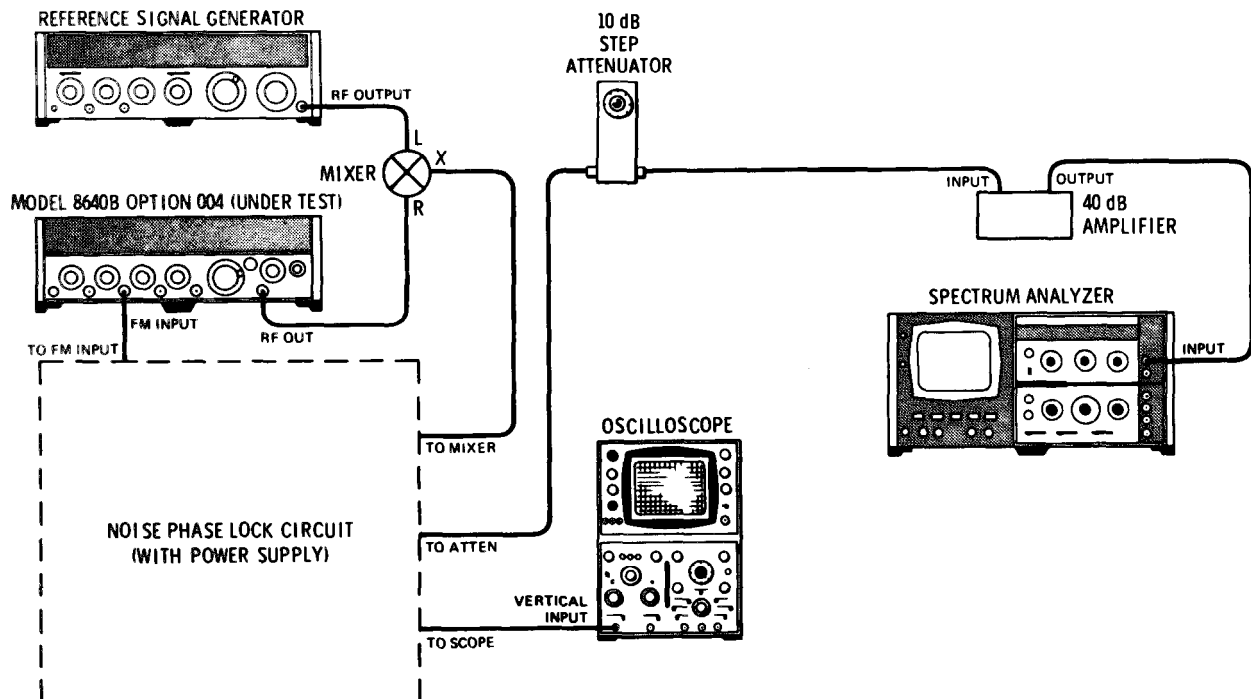

Figure 4-6. Single Sideband Phase Noise Test Setup
1. Connect equipment as shown in Figure 4-6 after setting test Signal Generator's controls as follows: